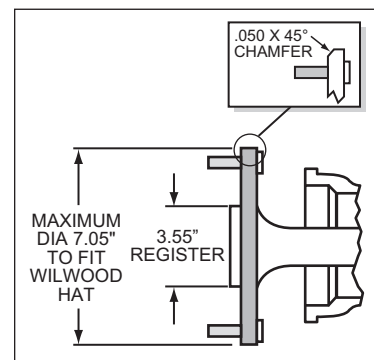

Figure 2. Axle Flange Maximum Dimension
- Axle center registration diameter is **3.55"**, Figure 2.
- Maximum axle flange diameter must be no larger than **7.05"** w/.050" x 45° chamfer (Figure 2).